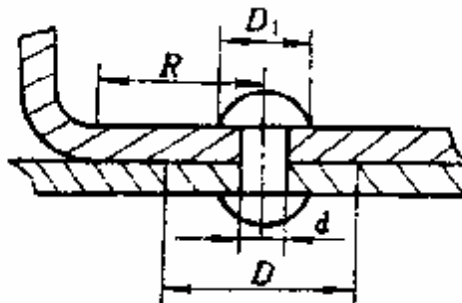

Figure 7-9-4 Riveting technical requirements
(5) Riveting should comply following requirements:
① Connecting face of riveting parts should be tight. Rivet range diameter D (figure 7-9-4) should not be 3 times less than rivet diameter.